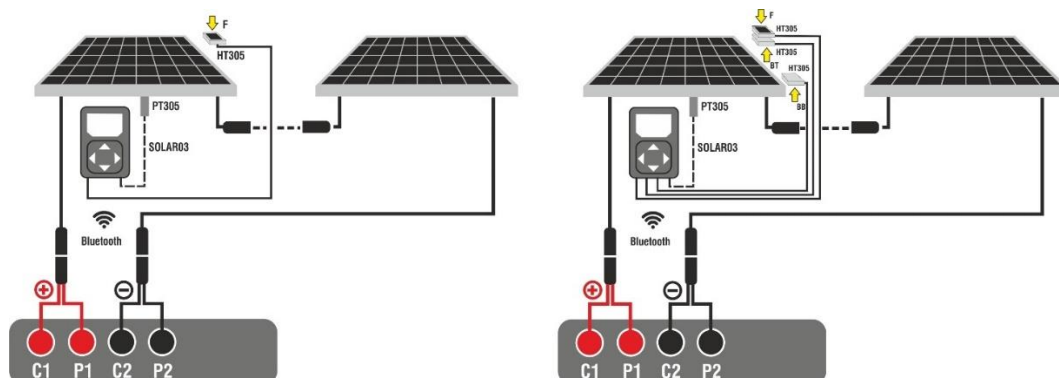

Fig. 63: Connection with remote unit SOLAR03 on Monofacial and Bifacial modules
3. Connect the instrument and the SOLAR03 remote unit to the module/string being tested as shown in Fig. 63. In detail:
- **In case of Bifacial modules**→, position the **three HT305 reference cells** on the front surface of module (**F**), on the top back section (**B** **T**=BackTop) and on the bottom back section (**BB**=BackBottom) of the module. Connect the front reference cell (F) to input "INP1", BT reference cell to input "INP2", BB reference cell to input "INP3" and **possibly** the temperature probe **PT305** to input "INP4" of the remote unit. In accordance with the IEC/EN60904-1-2 standard, the instrument calculates the equivalent front-side Irradiance (**Irreq**) value, which corresponds to the Irradiance on the front surface only, which produces the same effects as the Irradiance measured on both sides, considering the **bifaciality factor** (ϕ) of the module according to the following relationship: